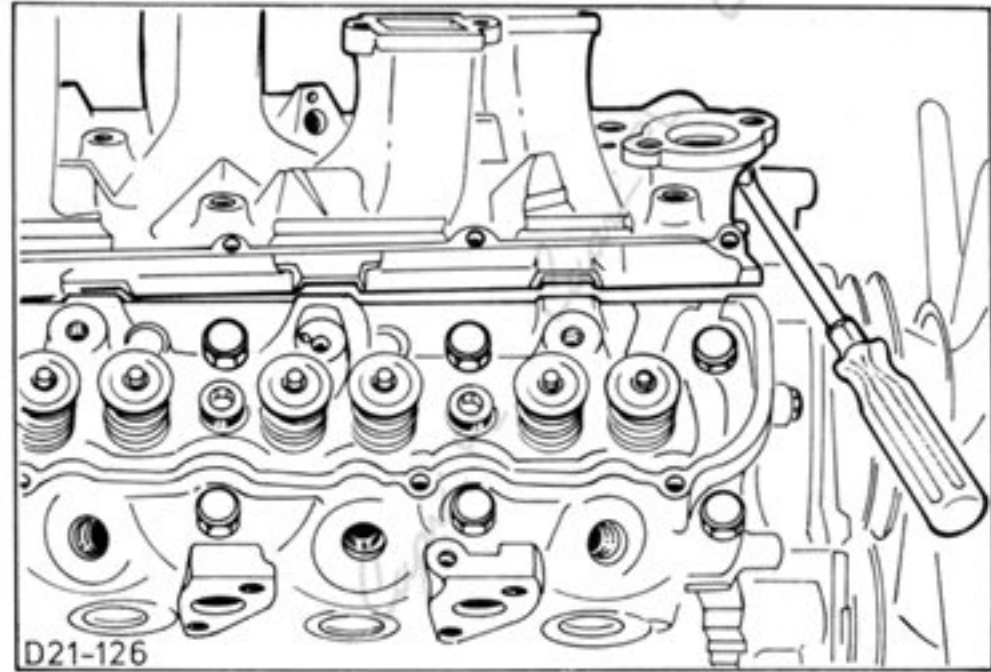

Fig.30. Release inlet manifold with a lever.
12. Unscrew intake manifold (6 bolts, 2 nuts) with by-pass hose. If necessary, prise inlet manifold from the gasket with a lever, Fig.30, but do not insert a screwdriver between the sealing surfaces.